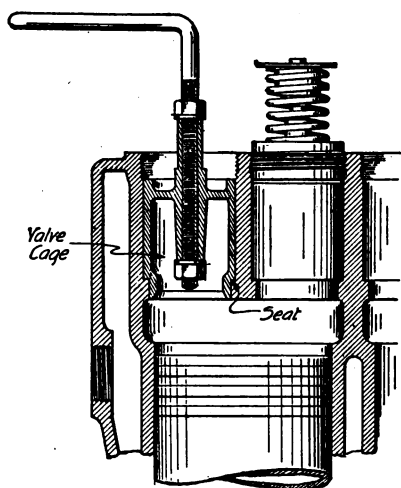

Fig. 183. Simple Fixture for Grinding-In Overhead Valve Cages
**Valve Cage Repairs.** When the valves are in overhead cages, it is highly important that they fit tightly in the cylinder head; they must be ground in as carefully and as tightly as the valves are ground into their seats. Where a shop handles a good many motors of the overhead-valve type, it is desirable to make a rig to do the grinding easily. One of these rigs is shown in Fig. 183. It consists of a shaft and handle with lock nuts for the valve cages used on Buick cars. On these cars, it is in two parts; the cage proper, and the locking member which screws into the cylinder. Obviously the cage is the one to be ground in. The rig shown slides in the central opening, that is, fits in the valve guide, and has a lock nut top and bottom to fasten it tightly. When fitted into place firmly, the right-angle bend in the rig gives a handle by means of which the cage can be lifted in and out and, what is more important, rotated on its seat. When the cage is prepared, the seat is given a little oil and emery or oil and powdered glass or prepared valve grinding composition, the cage is set in place and ground in the same as a valve, that is, with one-third to one-half rotations in one position, then lift, move around, and repeat in the new position, continuing this until the whole surface of the cage in the cylinder has been covered twice. This should result in a good seat.